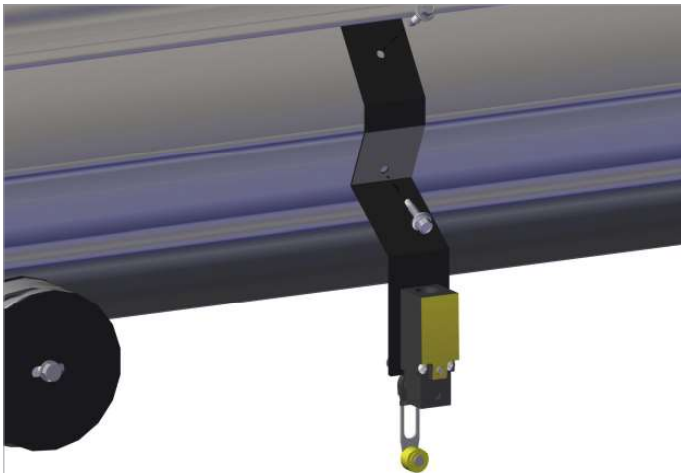

Fig. 5.3.7 Mounting the limit switch bracket
- Mount the limit switch bracket 1 in. (20 mm) next to the stop bracket self-tapping screws 6,3 x 25. Refer to fig. 5.3.7.